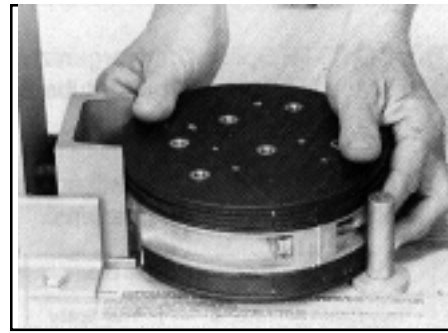

FIGURE 8 – END PLATE SHOWING THE DESIGNATED DRILL MARKS
5.01 Locate the designated drill marks on the End Plate (highlighted in yellow). These marks should face up when placing End Plate in Power End Plate Cutter. (Figure 8)